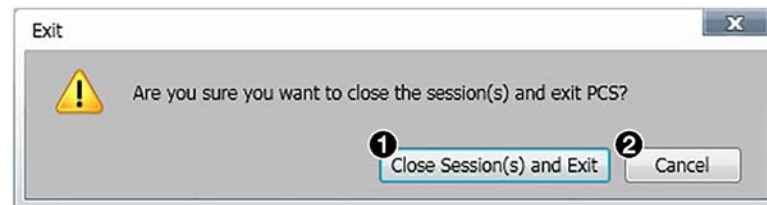

Figure 45. Exit Dialog Box
2. If necessary, click the **Close Session(s) and Exit** button (see figure 45, ①) to disconnect the software from connected devices, close all offline device tabs, and close the software. Click the **Cancel** button (②) to leave the software open.